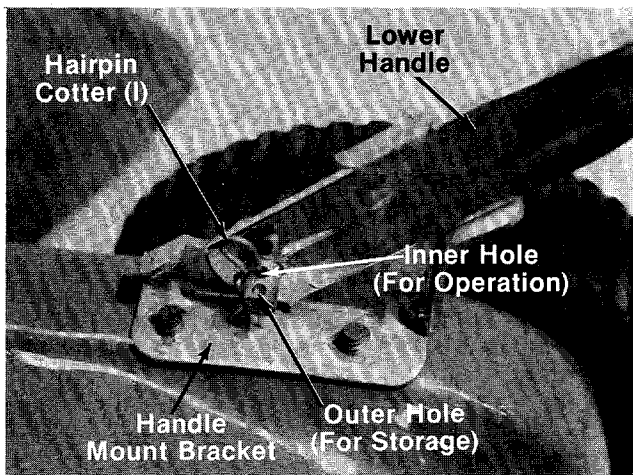

FIGURE 3.
- K (1) Battery
- L (1) Battery Charger
- M (1) Upper Handle (Not Shown)
- N (1) Lower Handle (Not Shown)
3. Place lower handle in position over weld pins in handle mount brackets on deck. Make certain the instruction label on the lower handle can be read from the operating position. Secure by placing two hairpin cotters (I) in inner hole on weld pins. See figure 3.